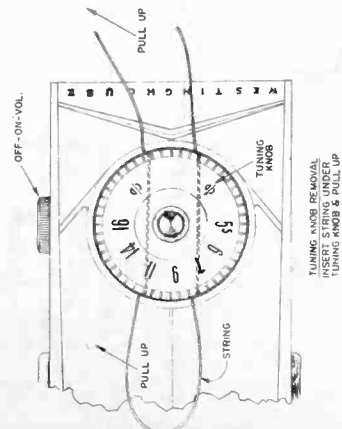

FIGURE 1 - TUNING KNOB REMOVAL
1. Remove the tuning knob as follows. Insert a loop of string (see figure 1) under the tuning knob and pull the knob up and out of the cabinet front.